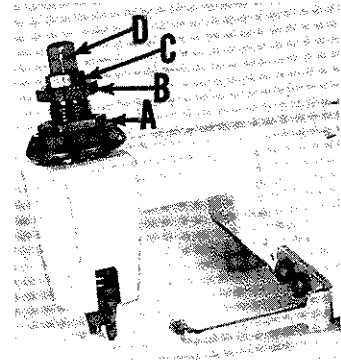

Fig. 2
Sufficient presser foot pressure to feed work uniformly should be maintained. Should it be necessary to increase or decrease amount of pressure on presser foot, loosen lock nut (A, Fig. 2) and turn adjusting screw (B). Adjusting screw has a right handthread so tightening increases pressure, loosening decreases pressure. When pressure adjusting screw (B) has been properly set, tighten lock nut (A). With presser foot resting on throat plate, position locking nut (C) so that its under surface is approximately 1/32 inch to 1/16 inch from the top surface of adjusting screw (B). Set cap (D) against locking nut (C).